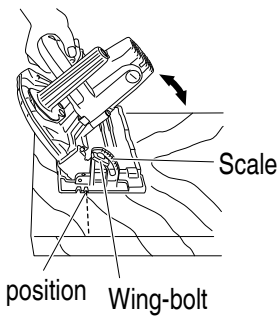
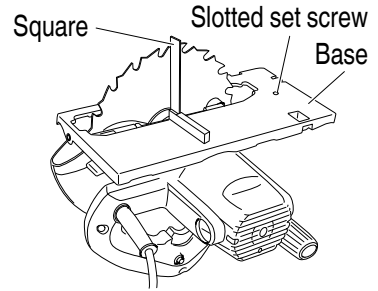

Fig. 4
Fig. 11
By loosening the wing bolt at the scale, the saw blade can be tilted up to maximum angle of 45° against the base (**Fig. 4**).
The angle of inclination can also be regulated by loosening the wing bolt at the scale (**Fig. 4**).
- (1) Turn the base face up (**Fig. 11**) and loosen the knob and wing-bolt (**Fig. 4 on page 21**).
- (2) Apply a square to the base and the saw blade and turning the slotted set screw with a slotted-head screw driver, shift the position of the base to produce the desired right angle.